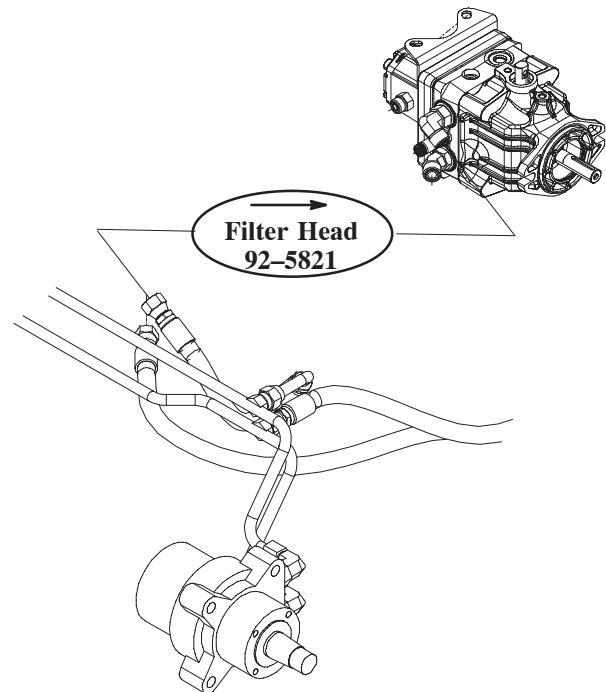

Figure 12
- Plumb filter assembly between top hose and top traction port fitting on pump (Fig. 12). (Reverse flow direction)